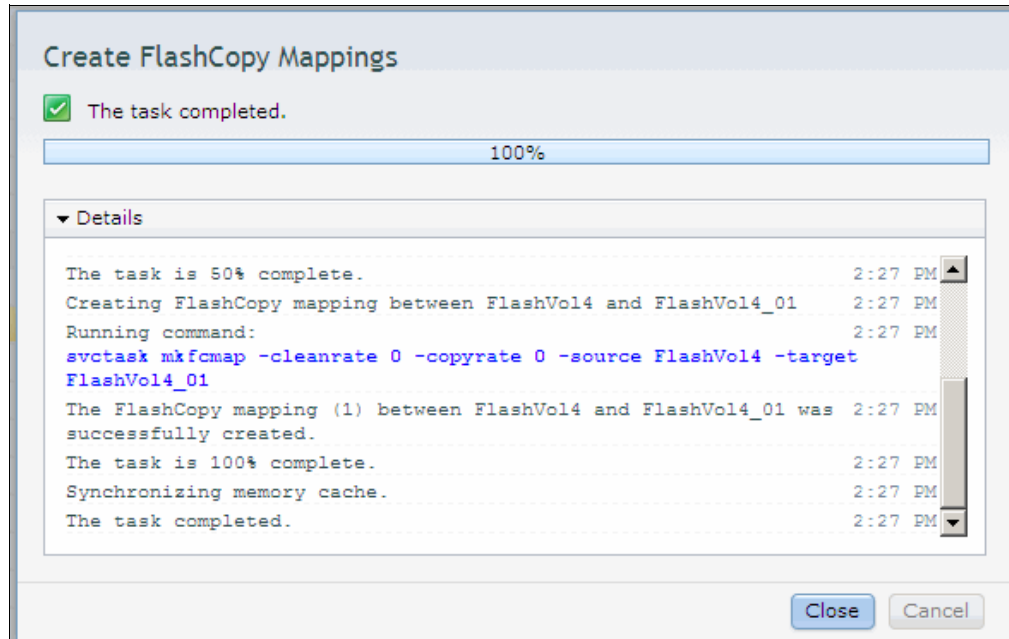

Figure 10-23 Advanced FlashCopy create task complete
- Click **Finish** when you make your decision and the mappings and volume are created, as shown in Figure 10-23.